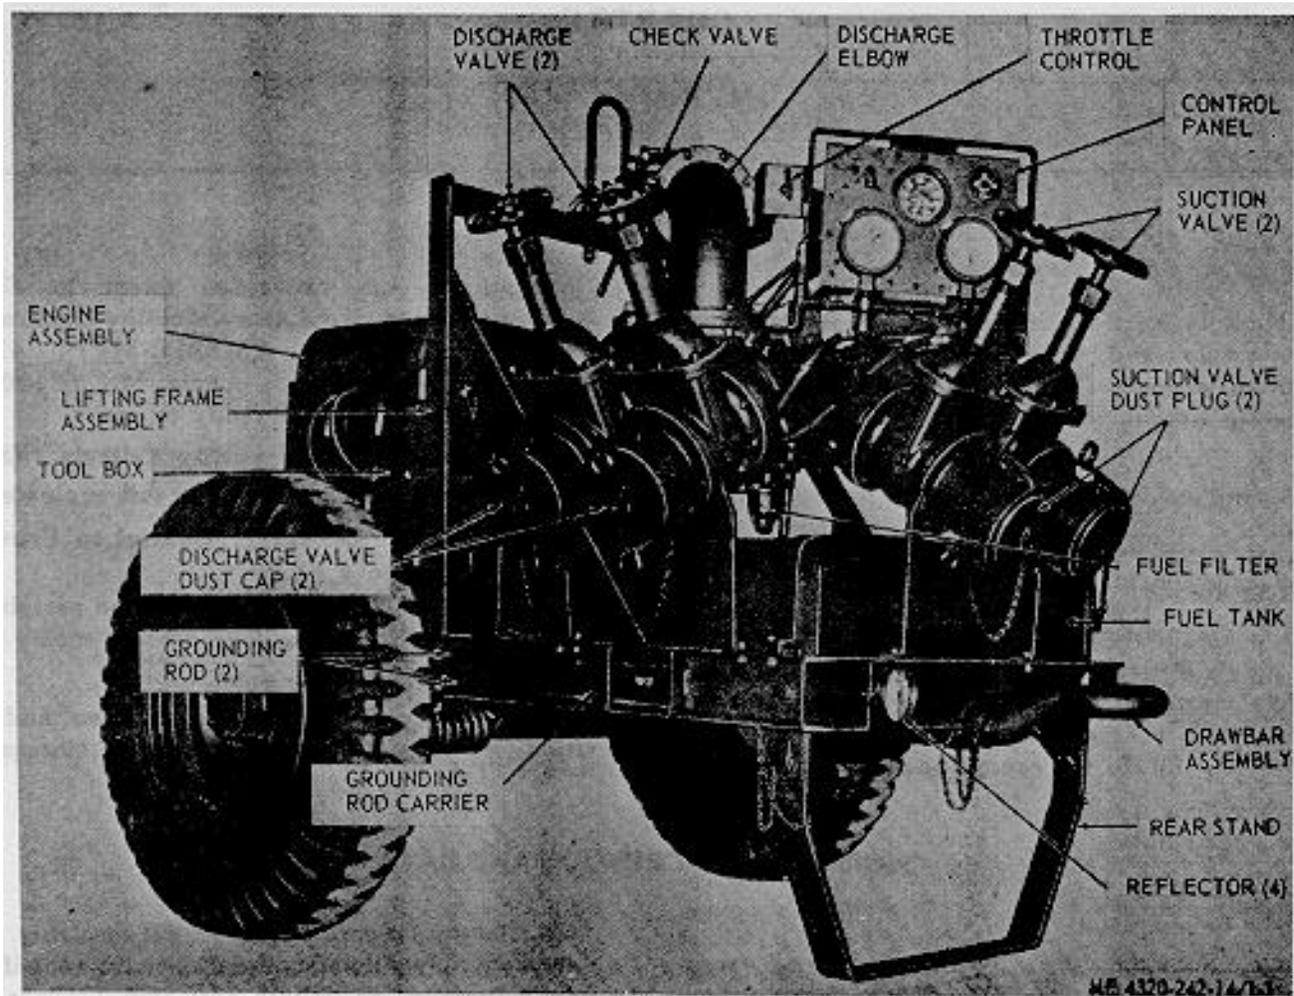

Figure 1-1. Pump assembly, right-front, three-quarter view.
a. General. The Gormann-Rupp pump assembly, model 84C15-4A084 or Barnes pump assembly, model US36ACG (fig. 1-1 and 1-2) is a self-contained, wheel mounted, self-priming unit designed for bulk transfer of flammable liquid petroleum fuels. It is powered by a four-cylinder gasoline engine directly coupled to the pumping assembly. Instruments and controls necessary for operation of the unit are mounted on the instrument panel. Additional controls include two suction valves, two discharge valves, air -venting valve, and discharge check valve.